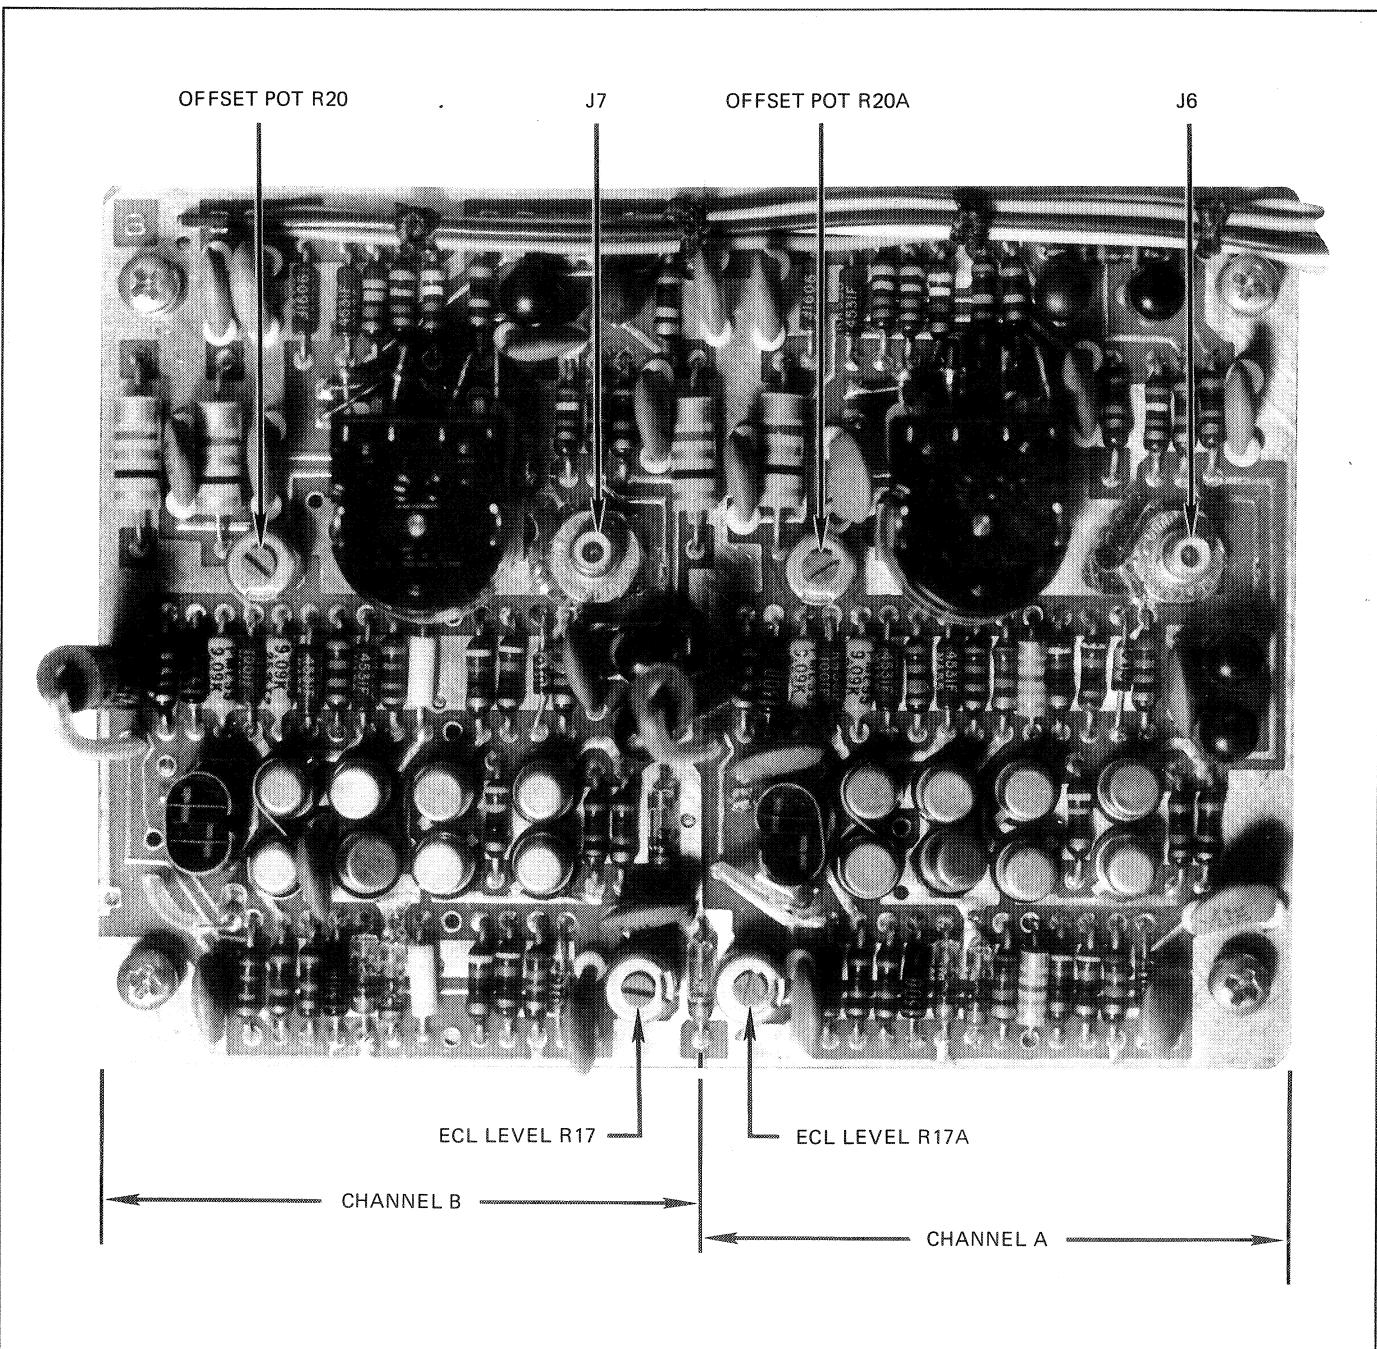

Figure 5.3 - Signal Conditioning Adjustments
- Adjust the ECL level pot R17A (figures 5.3 and 6.1) so the logic levels at MD1-12 are the same as the logic levels at MD2-8.
- f. Adjust the ECL level control R17 (figures 5.3 and 6.1) such that the logic levels at ME0-6 are the same as the logic levels at MC1-8.